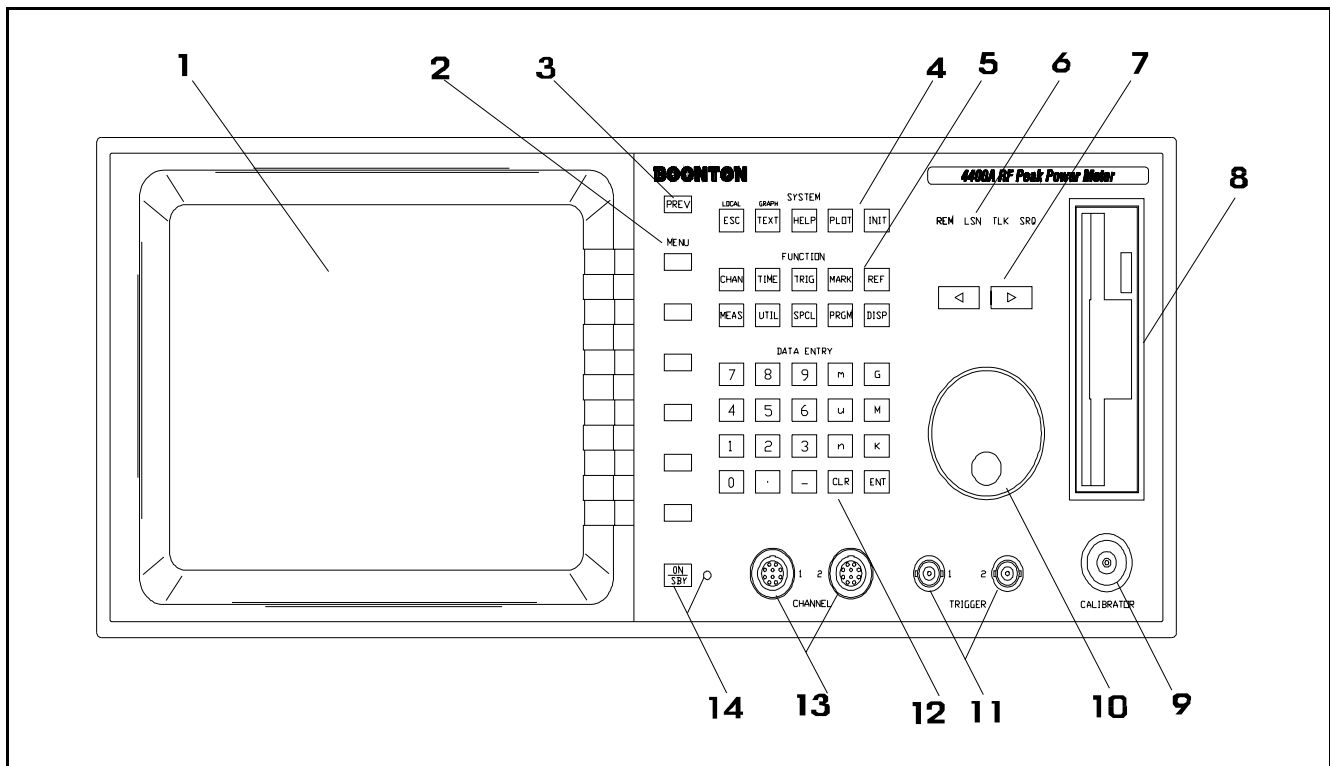
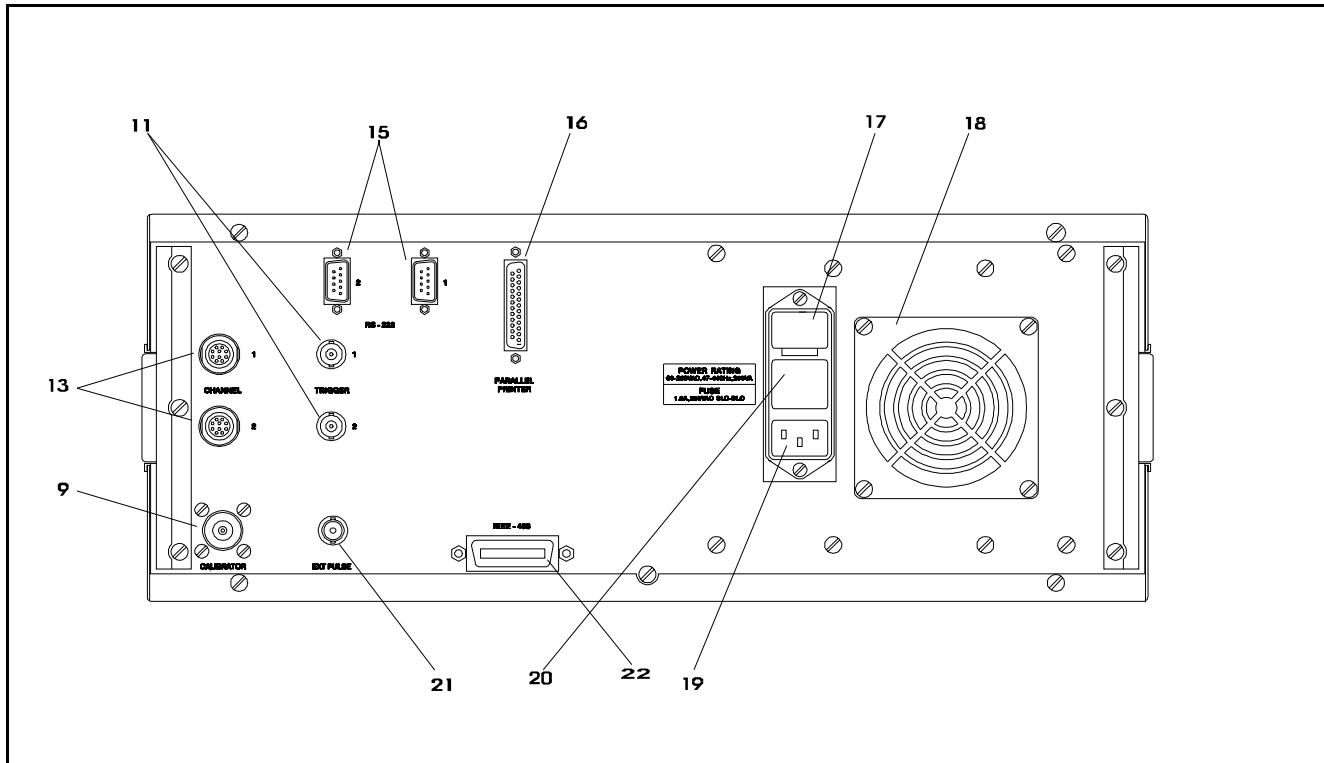

Figure 3-1. Standard Model 4500A RF Peak Power Meter Analyzer - Front Panel
Figure 3-2. Model 4400A/4500A - Rear Panel
Connect the power cord supplied with the instrument to the power receptacle on the rear panel. See Figure 3-2.
7. Verify that the Instrument Serial Number matches the number on the rear panel label adjacent to the power connector assembly. See Figure 3-2.
Figures 3-1 and 3-2 illustrate the controls, indicators and connectors on the front and rear panels, respectively, of the standard instrument. Refer to Table 3-1 for a description of each of the illustrated items. Connectors indicated by an asterisk (*) may be front or rear-mounted, depending on the option selected. The function and operation of all controls, indicators and connectors are the same on the standard and optional models.
1. If the main power is off, press the power switch located on the rear panel. See Figure 3-2. If the ON/SBY indicator LED on the front panel is off, press the ON/SBY key. See Figure 3-1.